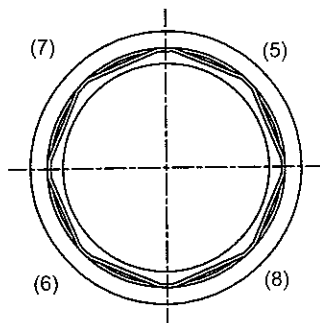

FIGURE 2
b. "Split the difference" between these (4) points and push the O-ring into the groove as shown in Figure 2